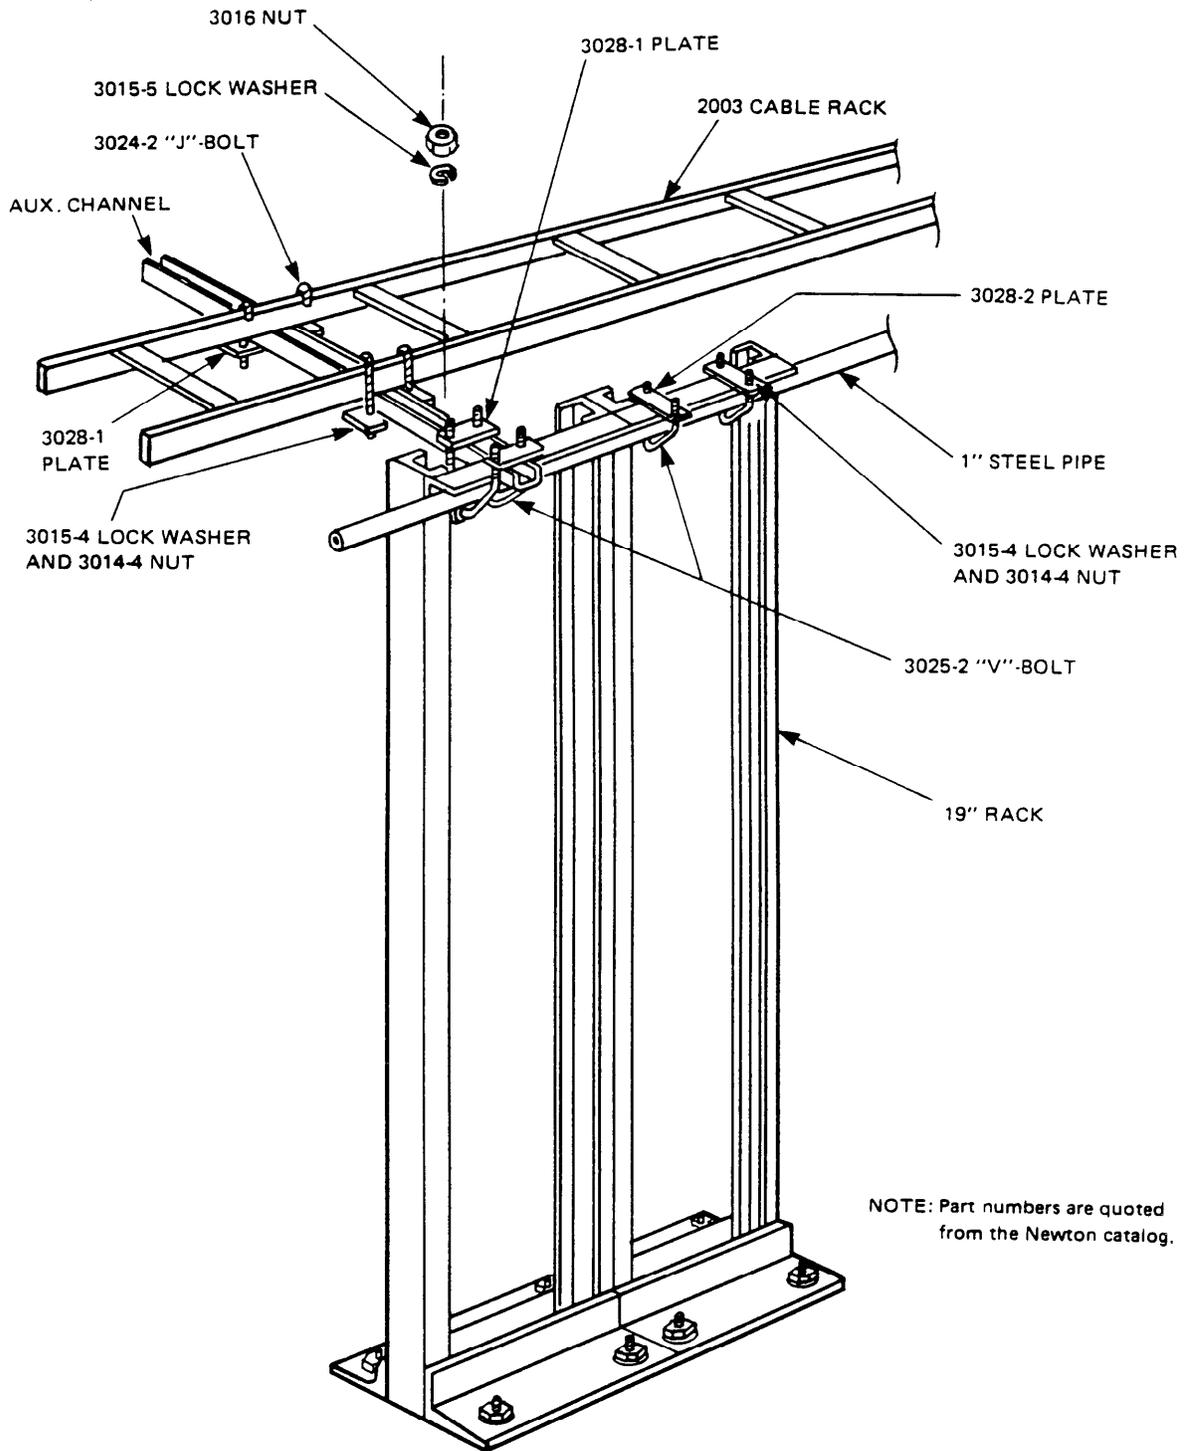

Figure 3-2 Rack Top Mounting Details
3.03 If the 6.3MB O-LTM is to be installed in an area where earthquakes are prevalent and to provide maximum stability, the rack top should be secured to a suitable support. Figure 3-2 shows a typical method for securing the rack top.